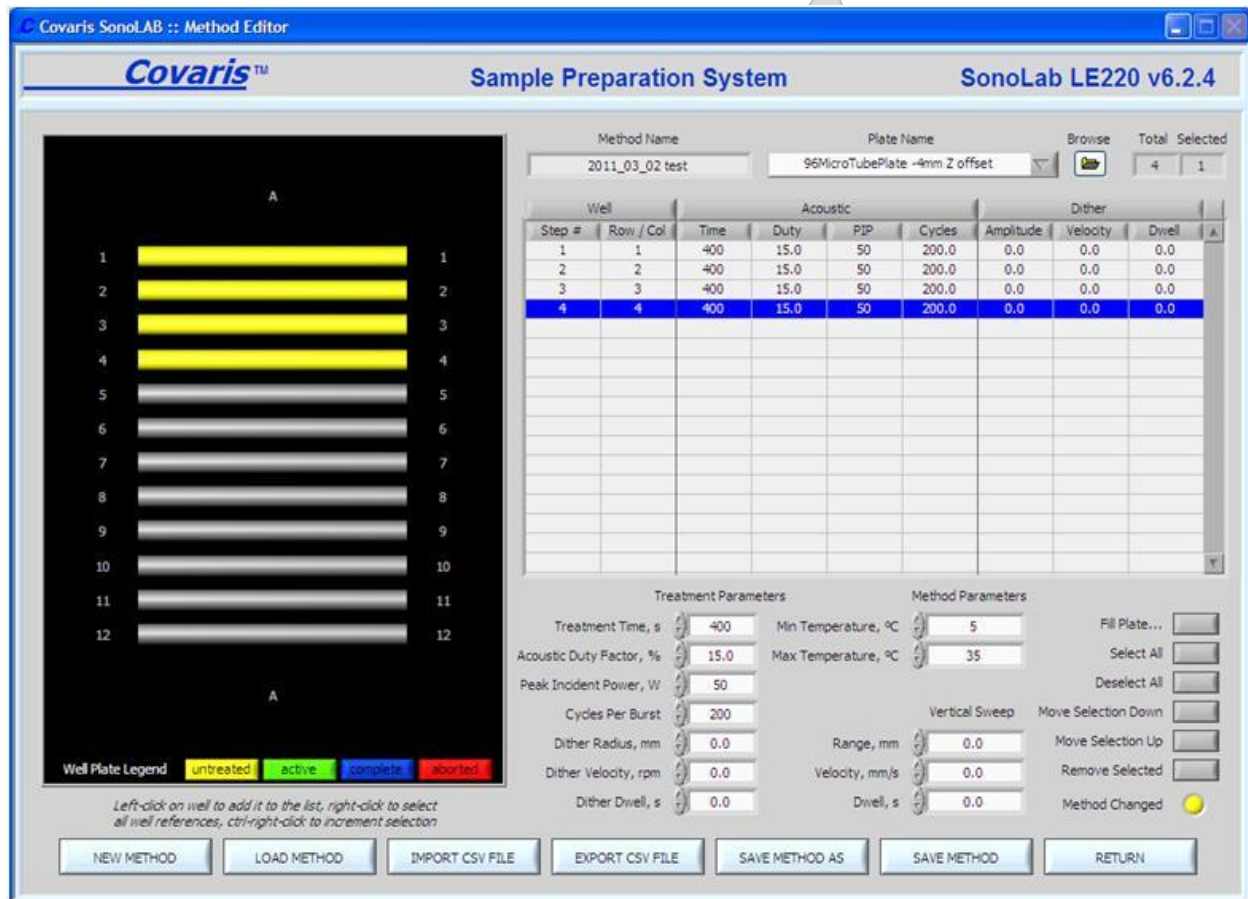

Figure 1: Method Editor Panel with Plate Map, Method Name and Plate Name (labware type).
6. After the homing sequence is completed, the program main window is displayed. Confirm the “DEGAS ON” button is greyed out and the bar under it is lit green. If degassing is not on, click the “DEGAS ON” button so it looks like the image below. See Fig 1 above.
- To open an existing method to run or to modify, click the “METHOD EDITOR” button. Figure 1 below for the Method Editor.